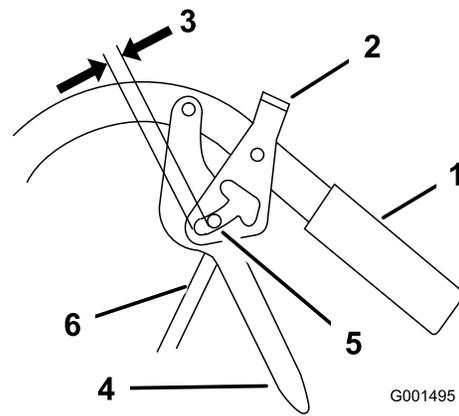

Figure 50
3. Install the control rod to the drive lever and the neutral/parking brake lock. Secure the control rod with a clevis pin and a hairpin cotter (Figure 50).
2. Adjust the control rod length by threading the rod in or out of the rod fitting until there is a 3/16 to 1/4 inches (5 to 6 mm) clearance between the control rod and the bottom of the neutral/parking brake lock (Figure 50).